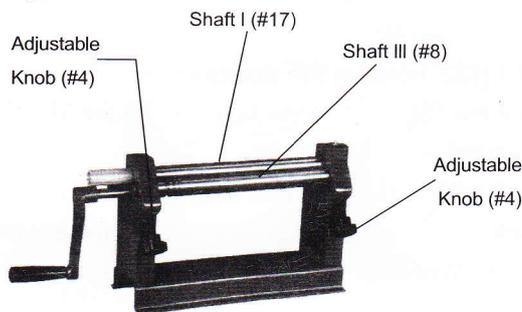

Figure 2-Adjusting the Roll Gap
2. To increase the gap between SHAFT 1 and SHAFT III(#8) to increase the diameter of your rolls, screw out the ADJUSTMENT KNOB (#4).For smaller diameter rolls, screw the KNOB in, For oven rolls, adjust both KNOBS at equal amount .To create cones, adjust one side more than the other ,See Figure2.